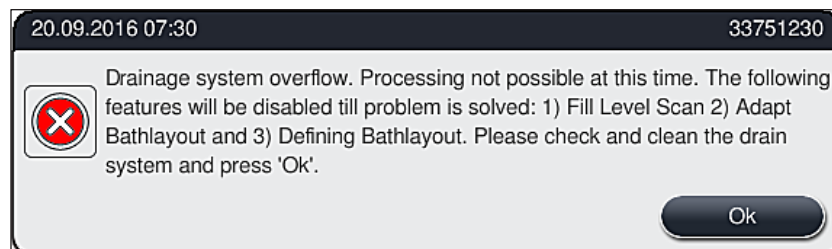

Fig. 118
Water drain system blockade (in the drainage sieve (→ "Fig. 96-1") or in the drain hose (→ "Fig. 7-1")) can lead to rising water levels in the drain pan. As a result, a critical water level can be reached in the instrument. The user receives an error message (→ "Fig. 118") on the screen and an alarm sounds.
1. Open the instrument cover if the warning message (→ "Fig. 118") appears.